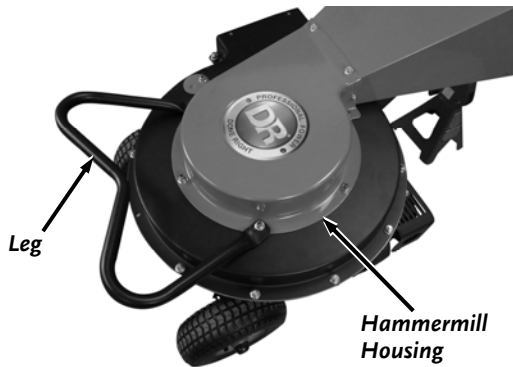

Figure 10
**Note:** When installing the Hammermill Housing for the Electric Start model, do not install the two Locknuts where the Leg will be attached (**Figure 10**) until the machine can be tipped back and supported as described.
Tip the machine back and support the Shredder Hopper with a Jack Stand under the Hopper (**Figure 10**).